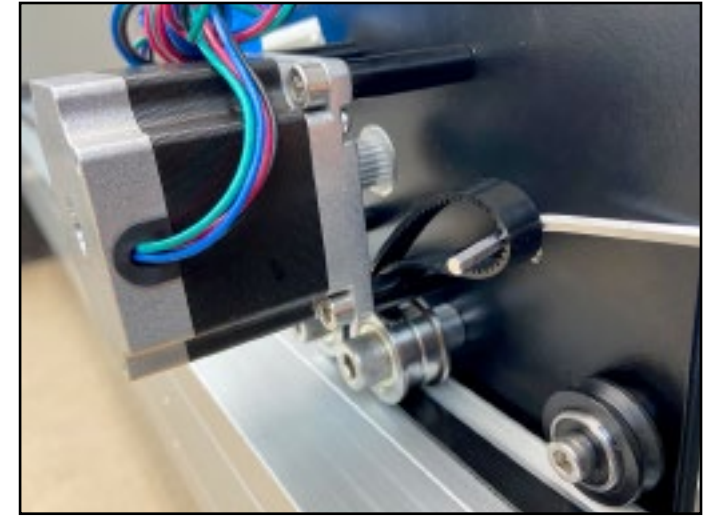

Figure 5-8
6. Use the 3mm hex key to reach in between the X-motor and carriage plate, hook the loop, and pull it up and out towards you. See **Figure 5-8**.